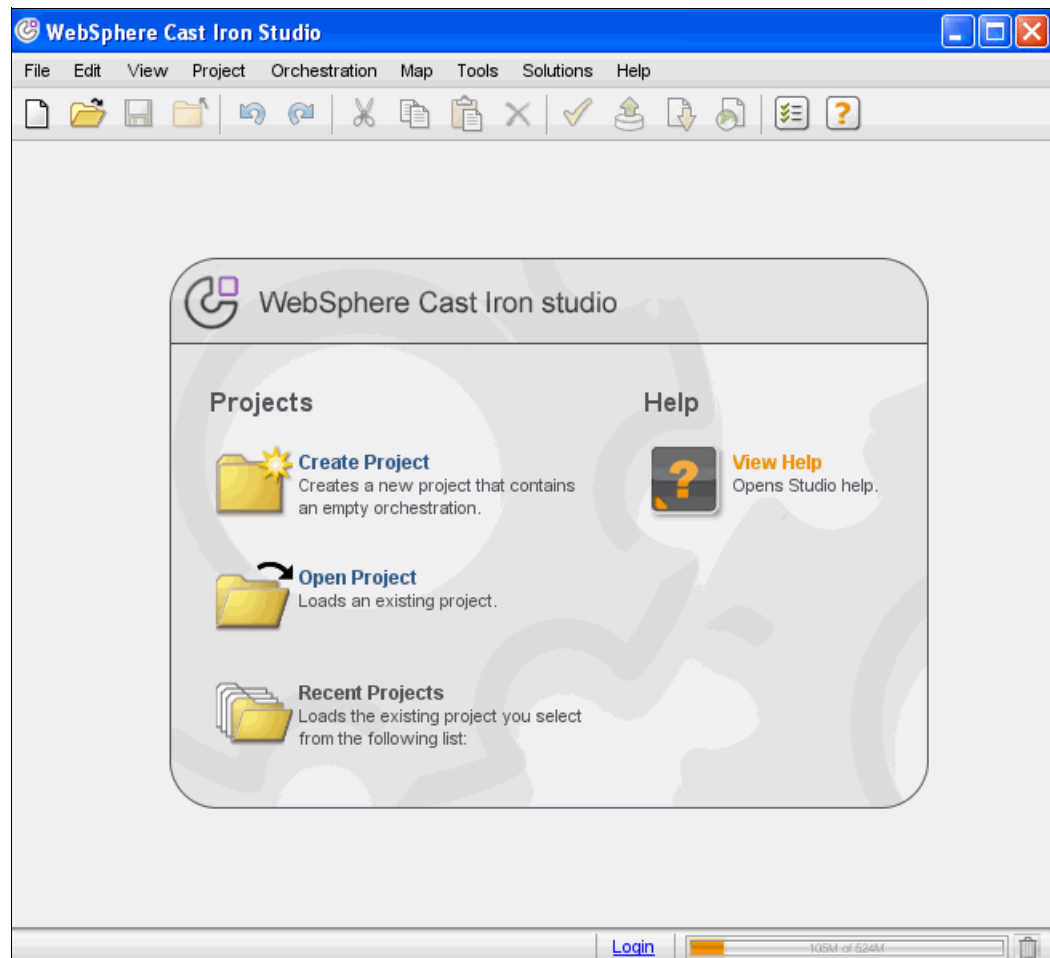

Figure 2-10 Studio panel
10. The entry window of Studio displays, as shown in Figure 2-10. To set the language for the user interface, Studio determines the regional setting of the operating system. If, for example, the regional setting of the operating system is set to U.S., the Studio menus display in English.